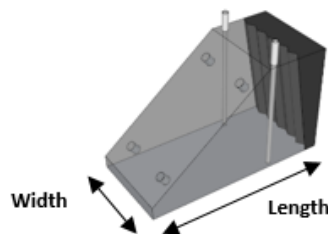

Figure 75: Angled wedge dimension
- Wedge dimensions: set the length and width (Figure 75). The wedge height is editable in the References tab (*Part 2 Section 2.4*).